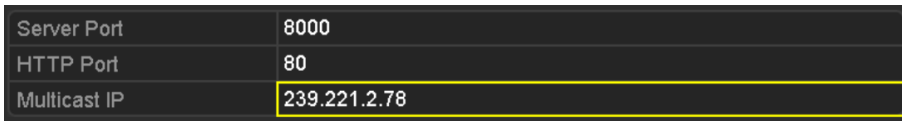

Figure 9. 16 Configure Multicast
2. Select the **More Settings** tab to enter the More Settings interface, as shown in Figure 9. 15.
3. Set **Multicast IP**, as shown in Figure 9. 16. When adding a device to the Network Video Surveillance Software, the multicast address must be the same as the NVR’s multicast IP.